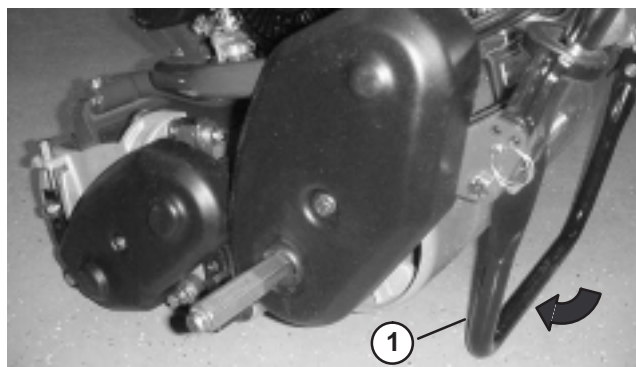

Figure 6
1. Push kick stand down with foot and pull up on handle support until kick stand has rotated forward, over center (Fig. 6).